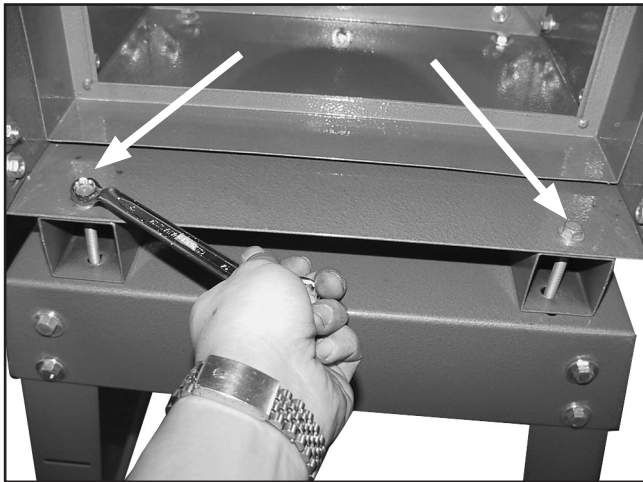

Figure 9. Removing hex bolts.
- Remove the two $\frac{5}{16}$ "-18 x 3" hex bolts shown in **Figure 9**.